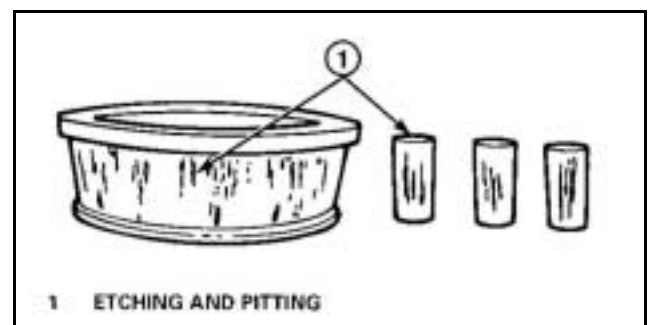

Figure 39
- f. Damage on rollers and on surfaces of the cup and cone inner race that touch the rollers. **Figure 39.**